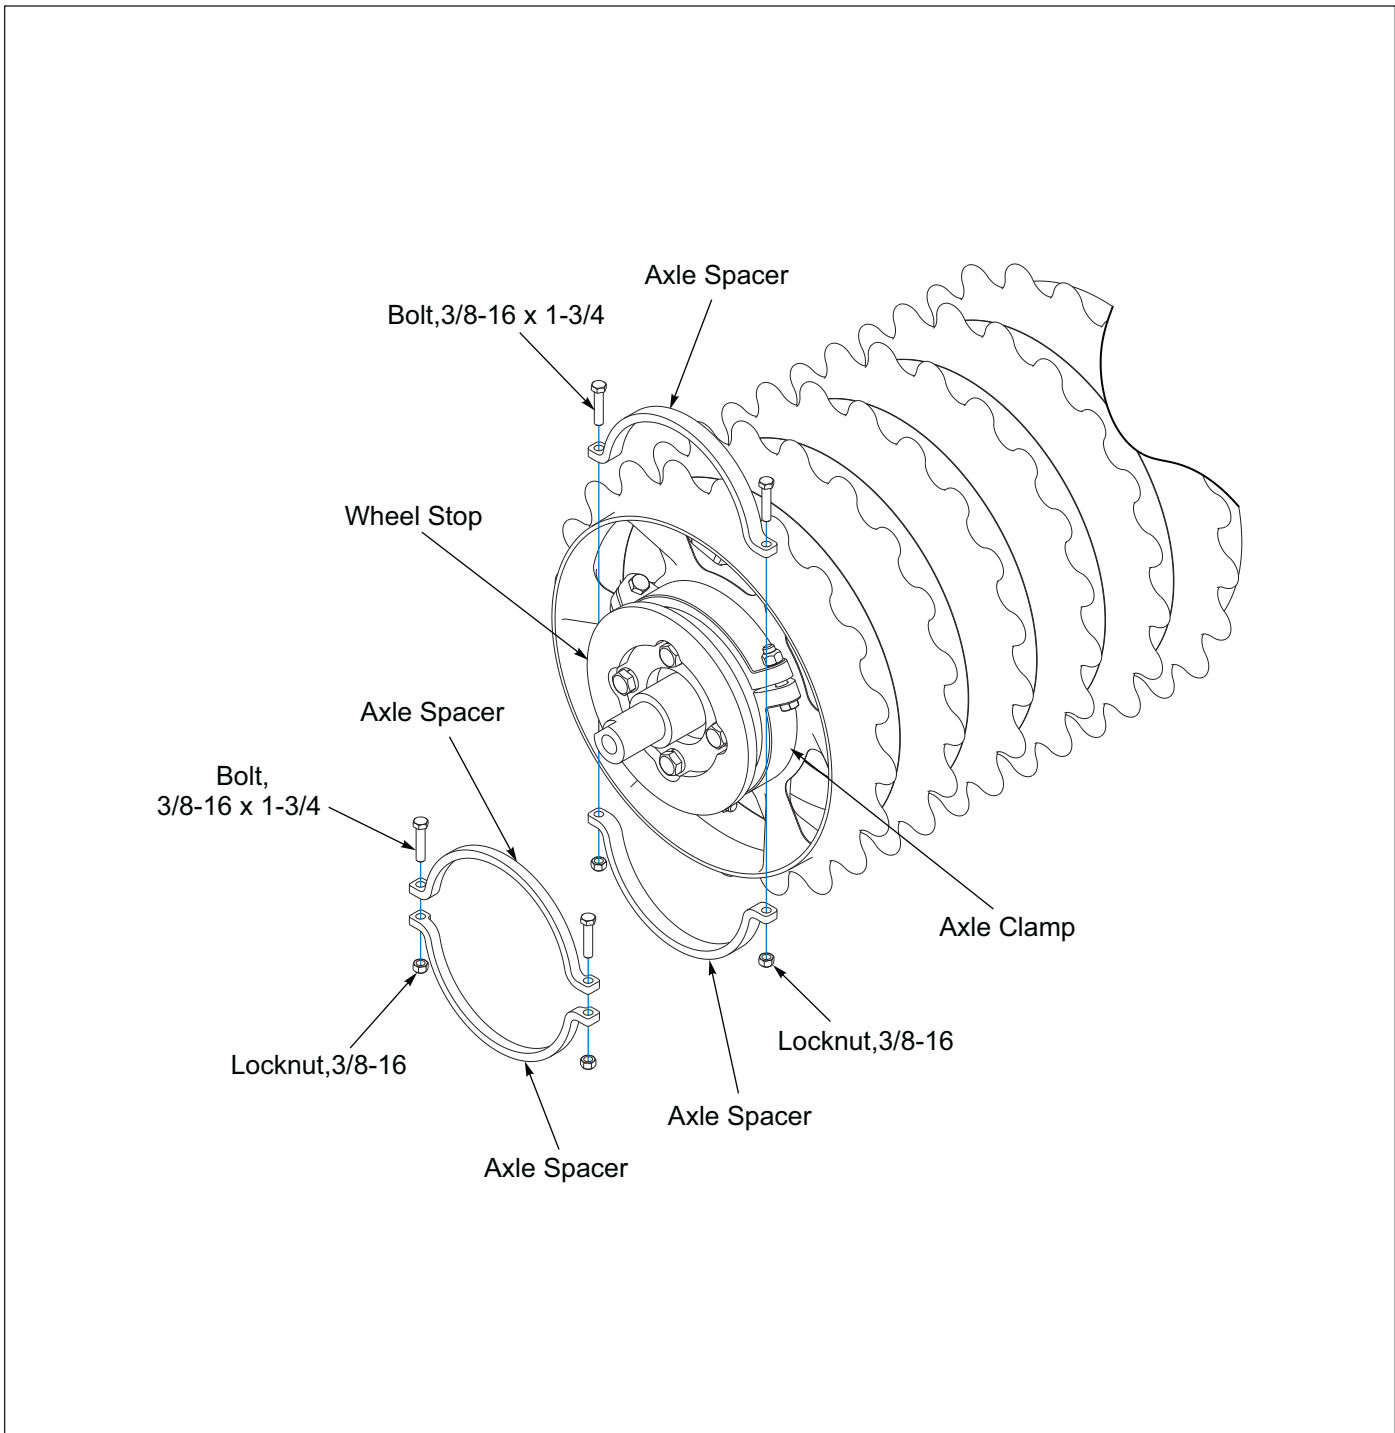

Figure 2-65: Roller Clamp Spacer Installation
3. If there is a gap between the Axle Clamp and the Wheel Stop, install the appropriate Clamp Spacer with 3/8-16 x 1-3/4 Bolt and Locknut. **See Figure 2-65.**